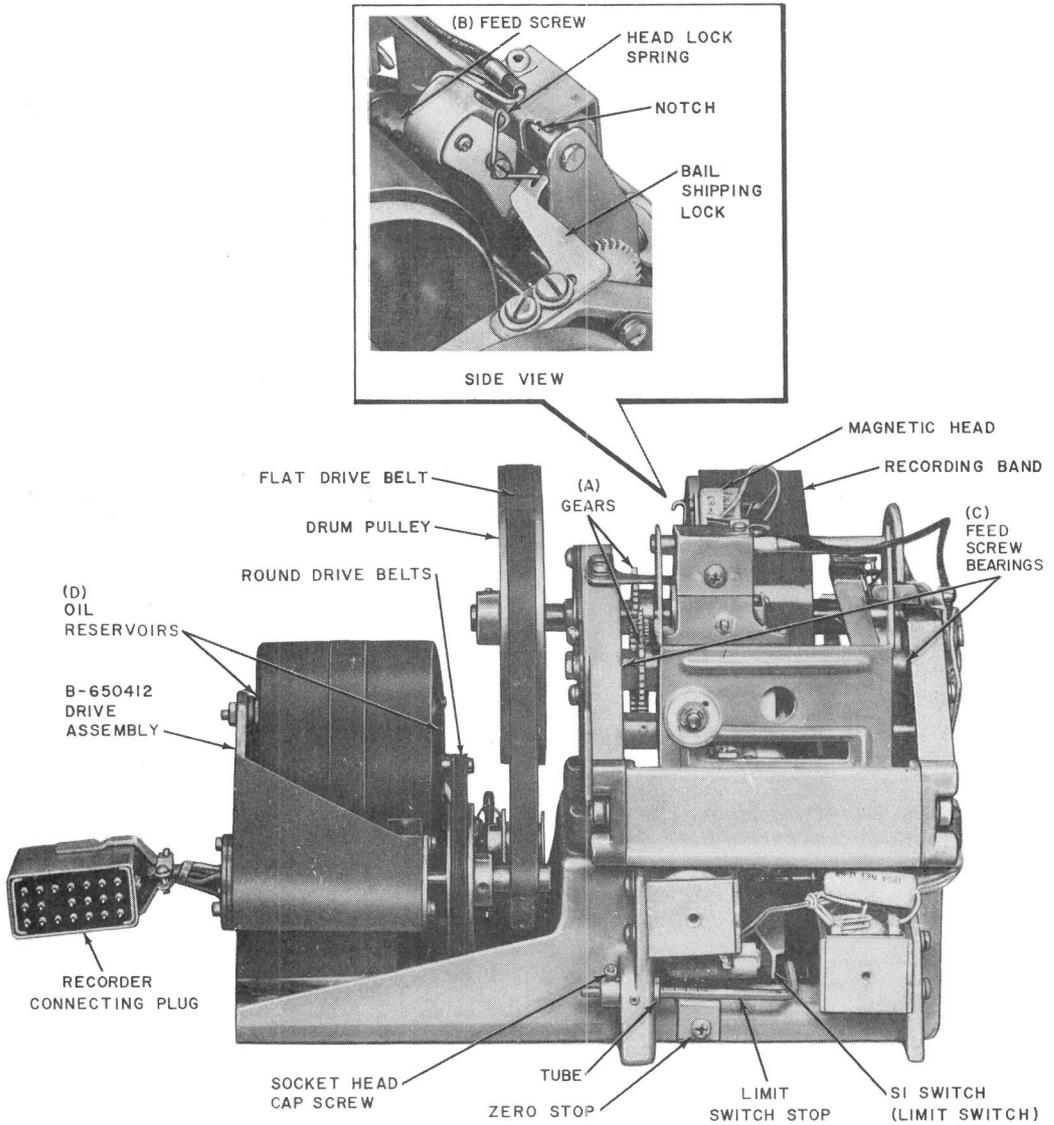

Fig. 6—KS-16765, List 3 Recorder, Front View
2.09 The KS-16765, List 3 recorder (Fig. 6 and 7) is the announcement recording mechanism. It consists of a magnetic record-reproduce head, an apparatus for tracking and switching, and a magnetic recording band on a drum. The drum is revolved by the B-650412 drive assembly (Fig. 10)
2.12 Facilities are provided for limiting the maximum recording interval to any portion of the total capacity. This is accomplished by adjustment of the limit switch stop (Fig. 6).
| Drive Assembly | B-650412 | Component of KS-16765 List 3 Recorder | Fig. 6 |
| Motor | B-650418 | Component of B-650412 Drive Assembly | Fig. 6, 10 |
| Drive Belt* | B-651981 | Component of B-650412 Drive Assembly | Fig. 6, 10 |
| Belt†‡ | B-651703-1 | Component of KS-16765, List 3 Recorder | Fig. 6 |
| Stop | B-190915 | Announcement Length Adjustment | Fig. 6 |
3.05 KS-16765, List 3 recorder (Fig. 6 and 7):